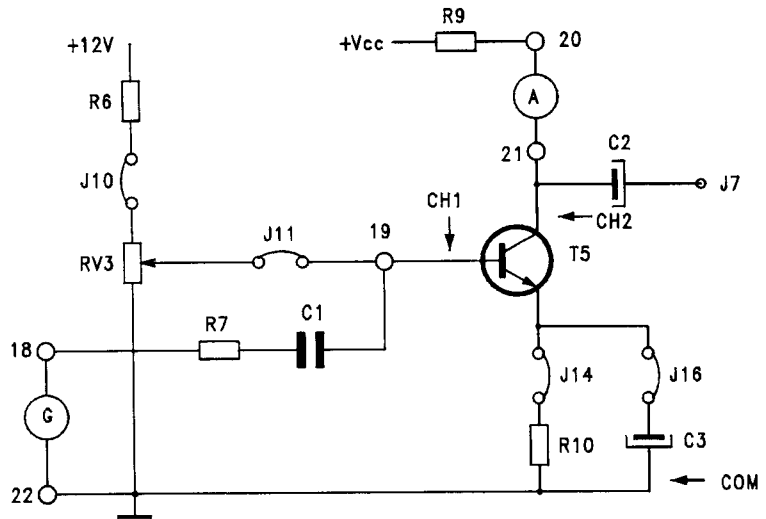

fig. B18.11
- Connect jumpers J10, J11, J14, J16, and the ammeter between points 20 and 21 as in figure B18.11.
- In the circuit of fig.B18.11, adjust I_{CQ} to about 5 mA by means of RV3